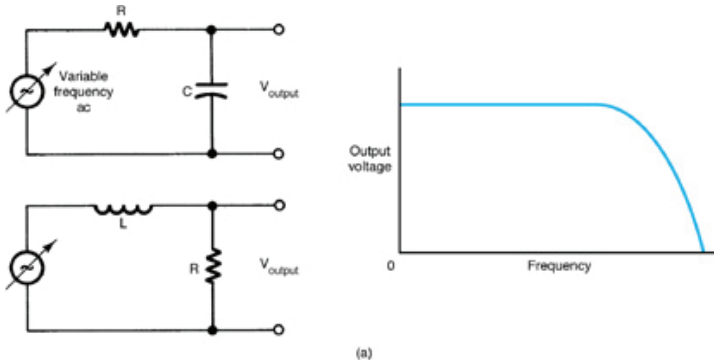

Figure 19.2 Low-pass filters. (a) Series RC low-pass filter. (b) Series RL low-pass filter. (c) Frequency response curve of low-pass filter.
Figure 19.2 shows the circuits used for **low-pass filters** and a typical frequency response curve. Many low-pass filters are series RC circuits (see **Figure 19.2(a)**). Output voltage (V_{out}) is taken across a capacitor. As frequency increases, capacitive reactance (X_C) decreases, since $X_C = \frac{1}{2\pi fC}$. The voltage drop across the output is equal to current (I) times the capacitive reactance (X_C), with X_C measured in ohms. So, as the frequency increases, the X_C decreases and the voltage output decreases.
Series RL circuits such as that shown in **Figure 19.2(b)** may also be used as low-pass filters. As frequency increases, the inductive reactance (X_L) also measured in ohms increases since $X_L = 2\pi fL$. Therefore, any increase in X_L reduces the circuit's current. The voltage output taken across the resistor is equal to current (I) times the resistance (R), or $I \times R$. So, when I decreases, V_{out} also decreases. As frequency increases, X_L increases, I decreases, and V_{out} decreases. Note the shape of the frequency response curve of **Figure 19.2(c)**, showing that as frequency increases, voltage output decreases. In a series RL circuit, the cutoff frequency (f_c) occurs when $X_L = R$. Thus,
Calculate the capacitive reactance (X_C) and capacitance of a low-pass filter circuit shown in **Figure 19.2**. Assume that the value of $R = 1 \text{ k}\Omega$ and $f_c = 3 \text{ kHz}$.
Calculate the capacitive reactance (X_C) and capacitance of a low-pass filter circuit shown in **Figure 19.2**. Assume that the value of $R = 1 \text{ k}\Omega$ and $f_c = 100 \text{ Hz}$.
Calculate the cutoff frequency of a low-pass filter circuit shown in **Figure 19.2**. Assume that the value of $R = 10 \text{ k}\Omega$ and $C = 1 \mu F$.
Calculate the cutoff frequency of a low-pass filter circuit shown in **Figure 19.2**. Assume that the value of $R = 50 \text{ k}\Omega$ and $C = 0.05 \mu F$.